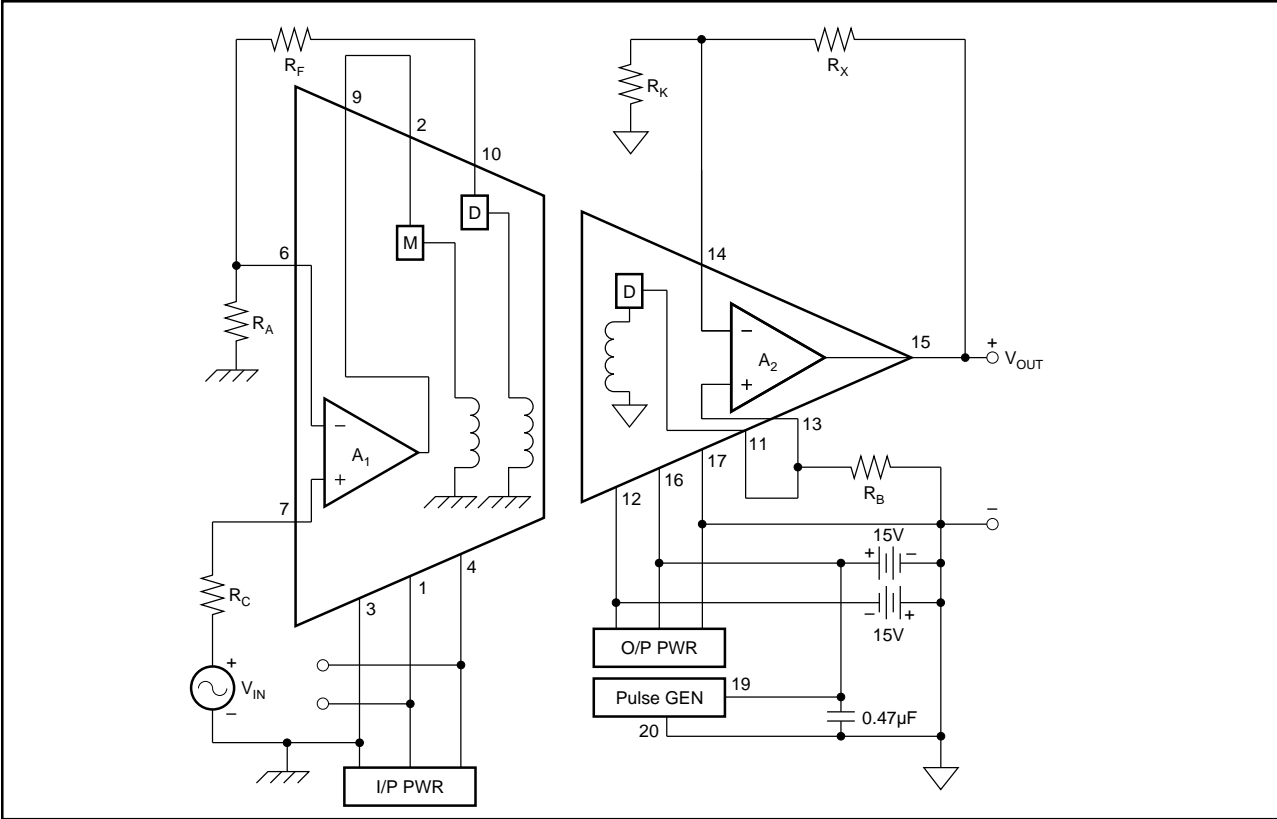

FIGURE 3. Power: Two-Port, Dual Supply; Signal: Noninverting Gain.
NOTES: (1) Ratings in parenthesis are between P- (pin 20) and O/P Com (pin 17). Other isolation ratings are between I/P Com and O/P Com or I/P Com and P-. (2) See Performance Curves. (3) May be trimmed to zero. (4) If output swing is unipolar, or if the output is not loaded, specification same as if external supply were used. (5) Includes effects of A₁ and A₂ offset voltages and bias currents if recommended resistors used. (6) Versus the sum of all external currents drawn from V+, V-, +V, -V (= ISO). (7) Effects of A₁ and A₂ bias currents and offset currents are included in Offset Voltage specifications. (8) With respect to I/P Com (pin 3) for A₁ and with respect to O/P Com (pin 17) for A₂. CMR for A₁ and A₂ is 100dB, typical. (9) In configuration of Figure 3. Ripple frequency approximately 750kHz. Measurement bandwidth is 30kHz. (10) Decreases linearly from 16VDC at 85°C to 12VDC at 100°C. (11) Instantaneous peak current required from pins 19 and 20 at turn-on is 100mA for slow rising voltages (50ms) and 300mA for fast rises (50μs). (12) Load current is sum drawn from +V, -V, V+, V- (= I_{ISO}). (13) Maximum voltage rating at pins 1 and 4 is ±18VDC; maximum voltage rating at pins 12 and 16 is ±18VDC. (14) Isolation ratings may degrade if exposed to 125°C for more than 1000 hours or 90°C for more than 50,000 hours.
Figure 3 shows two-port isolation which uses an external bipolar supply with its common connected to the output stage ground (pin 17). One of the supplies (either + or - could be used) provides power to the pulse generator (pins 19 and 20). The same sort of configuration is possible with the external supplies connected to the input stage. With the connection shown, filtering at pins 12 and 16 is not required. In this configuration continuous isolation voltage rating is: 3500VDC between pins 3 and 17; not applicable between pins 17 and 19; 3500VDC between pins 3 and 19.
The signal path portion of Figure 3 demonstrates two additional gain configurations: gain in the output stage and noninverting gain in the input stage. The following equations apply:
Use the resistor values obtained in Steps 3, 4, 8 and 9, and connect the 3656 as shown in Figure 3.